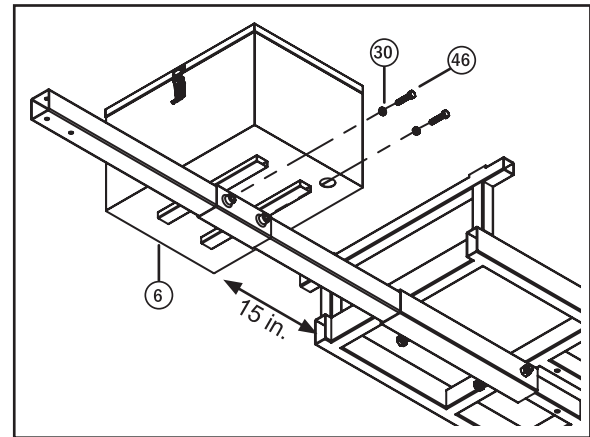

Fig. 6
Step 10: Install the Hydraulic Storage Box. Install the Hydraulic Storage Box (6) onto the Tow Bar with the lid opening facing away from the main frame. The distance from the frame to the outside of the box should be about 14-3/4 to 15 in. (375 to 380mm). Place two M12 Nuts (30) onto two M12 x 50 Bolts (46), then install the bolts into the Hydraulic Storage Box (6) as shown in Fig. 6. Use a torque wrench to tighten these between 50 to 55 ft-lbs (68 to 75 Nm).